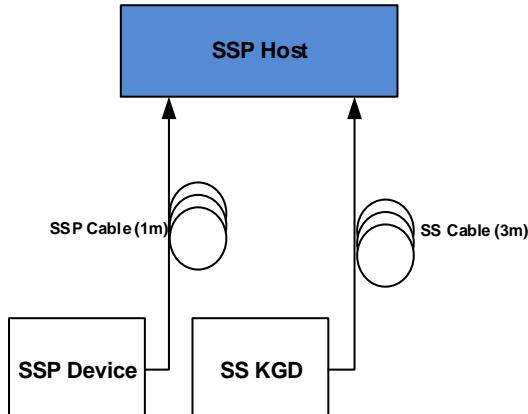

Figure 11-2: Modified Host/Device 3.1 Interoperability Interim Tree (with SSP device and 3.0 KGD)
- o Connect one SSP Device at root port and a SS Asmedia KGD to another port of the SSP host (see Figure 11-2)